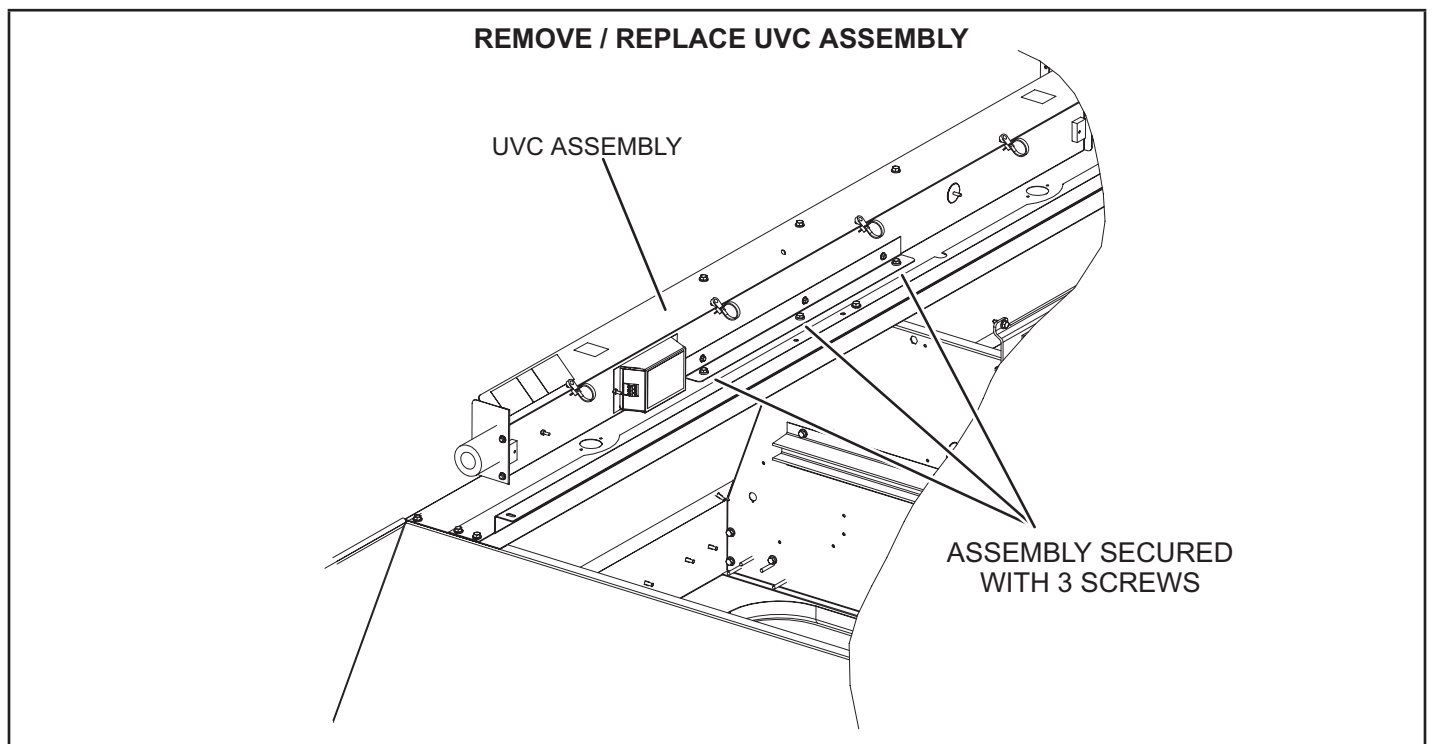

FIGURE 42
- 6 - Allow 10 minutes before touching the lamps. Then, carefully remove the lamp splash guards (and lamp for annual replacement) from each of the lamp holders. See FIGURE 42.